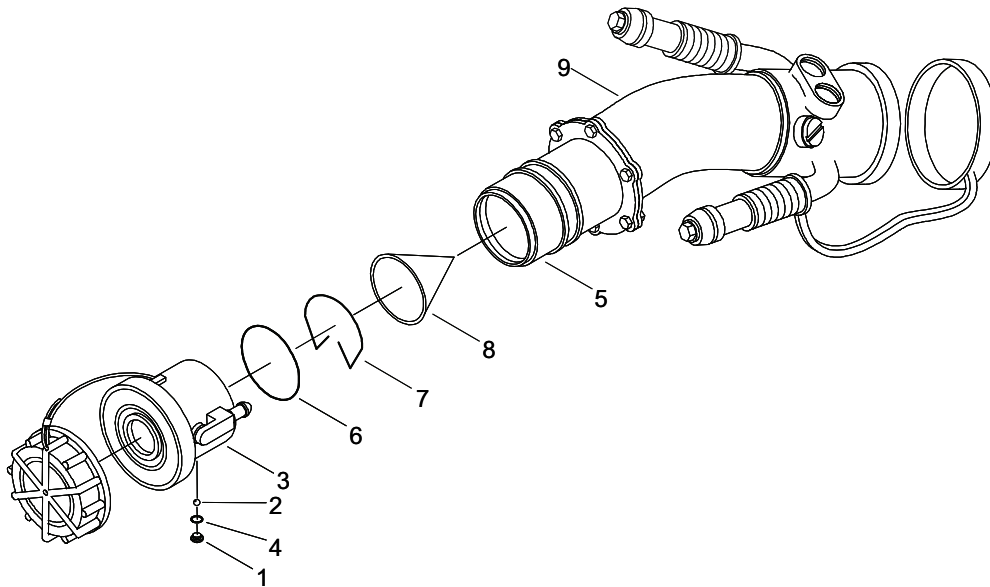

Figure 1. D-1 Nozzle Assembly.
1. Using a torque wrench and screwdriver bit, check running torque on screws (Figure 1, Item 1). If running torque is less than 3.5 in. lb (0.45 N-m), discard screw (Figure 1, Item 1).
Screw (Figure 1, Item 1) is a self-locking screw and is designed to be reused up to 15 times before replacement. If a torque wrench is not used to remove screw (Figure 1, Item 1), then screw (Figure 1, Item 1) should be replaced. Keep inlet hole in the up position when removing screw (Figure 1, Item 1) to prevent loss of ball bearings (Figure 1, Item 2) inside coupling (Figure 1, Item 3).
2. Remove screw (Figure 1, Item 1) from coupling (Figure 1, Item 3).
3. Remove o-ring (Figure 1, Item 4) from screw (Figure 1, Item 1).
4. Discard o-ring (Figure 1, Item 4).
Ensure all 41 ball bearings (Figure 1, Item 2) are accounted for during disassembly.
5. Hold coupling (Figure 1, Item 3) with screw hole toward cleaning cloth and rotate inlet fitting to allow ball bearings (Figure 1, Item 2) to fall onto the cleaning cloth.
6. Remove coupling (Figure 1, Item 3) from male adapter (Figure 1, Item 5).
7. Remove o-ring (Figure 1, Item 6) from coupling (Figure 1, Item 3).
8. Discard o-ring (Figure 1, Item 6).
9. Remove snap ring (Figure 1, Item 7) from male adapter (Figure 1, Item 5).